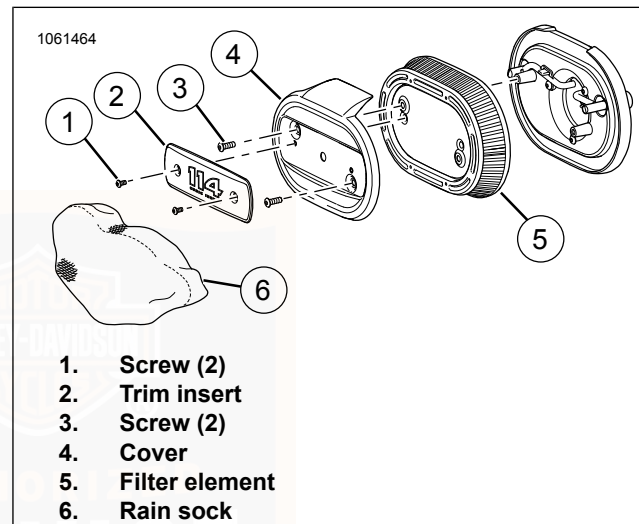

Figure 72. Air Cleaner: Oval
1. See Figure 72. Remove air cleaner trim insert.
- a. Remove trim insert screws (1).
- b. Remove trim insert (2).
- a. Remove screws (3).
- b. Remove cover (4).
- c. Remove filter element (5).
If equipped with oval air cleaner: See Figure 72. In wet or rainy conditions, because the filter element is exposed, water can enter the engine. When parked, water can cause internal engine corrosion or damage. When running, water can cause the engine to misfire. In wet or rainy conditions, install the rain sock (6) over the air cleaner assembly to minimize water intrusion.
1. See Figure 72. Install cover and filter element.
- a. Install filter element (5).
- b. Install cover (4).
- c. Install screws (3). Tighten. 50–60 **in-lbs**